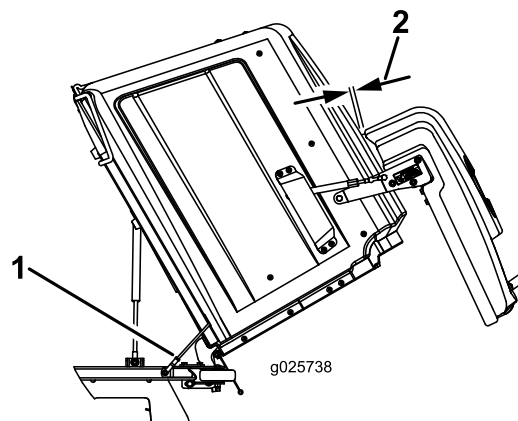

Figure 14
2. Loosen the jam nut next to the yoke at the end of the hopper-door cable/shaft assembly on each side, and rotate the shaft until the rear door has a clearance of 3.2 to 9.5 mm (1/8 to 3/8 inch) as shown in Figure 14.